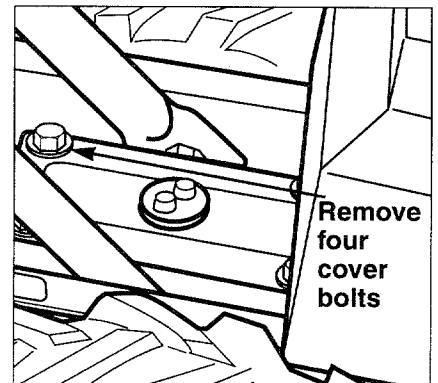

Figure 5-7: Removing front cover.
3. Remove the four bolts and washers securing the transmission cover to the front part of the transmission. Lift the cover and gasket off the transmission. See Figure 5-7.